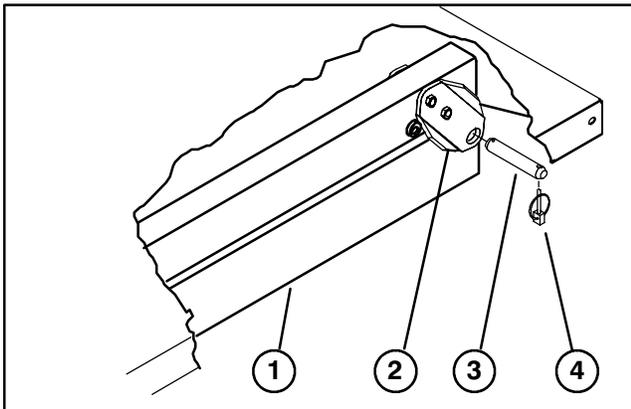

Figure 2
2. Remove clevis pin and (2) lynch pins securing each set of pivot plates to frame channels (Fig. 2).